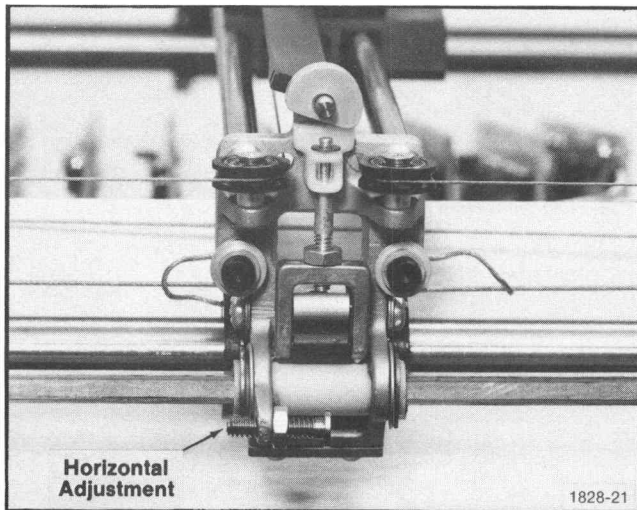

Fig. 3-21. Horizontal Position Adjustments.
6. To move the initial zero position left or right (see Fig. 3-21), locate the horizontal adjustment and move it right or left, respectively. This adjustment determines the pen carriage position when the X axis microswitch closes. Use a 1/4 inch open end wrench to turn the lock nut on the horizontal stop adjustment.